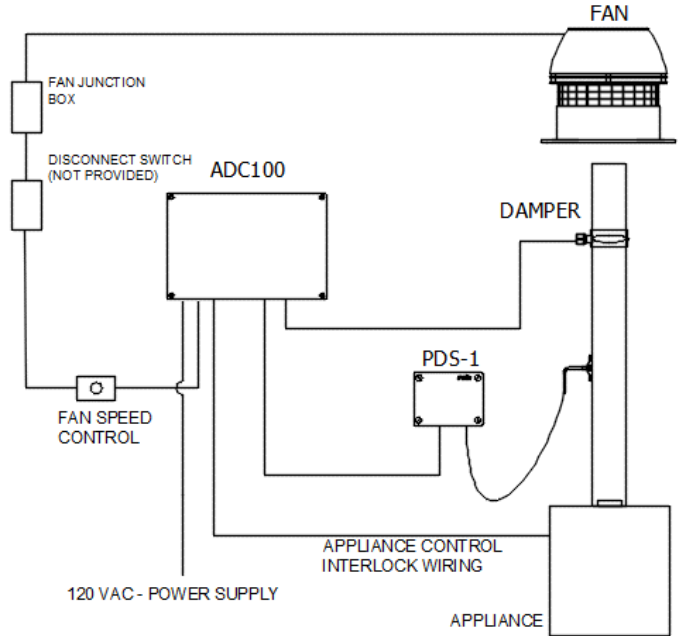

FIGURE 45
1. The ADC100 Control Unit must be installed indoors. As shown in **Figure 45**, the control will be wired directly to a 120/1/60 VAC power supply. The control will also be connected to the fan, appliance, and damper.